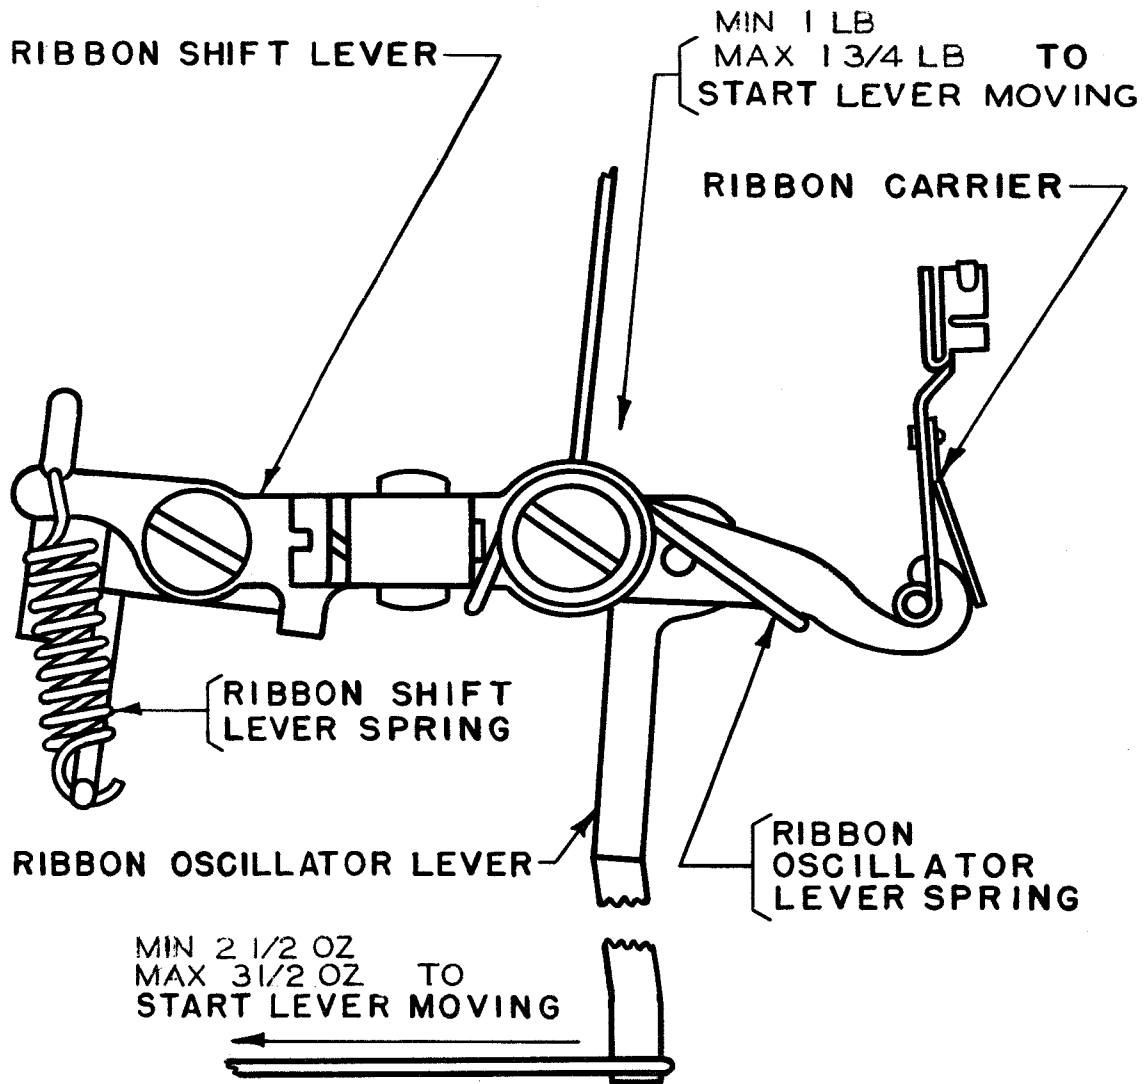

Figure 14
2.25 Ribbon-oscillator Lever should be free in its slot when its spring is unhooked. Gauge by feel. See Figure 14.
2.26 Ribbon-oscillator-lever Spring should have a tension of minimum 2-1/2 ounces, maximum 3-1/2 ounces, when the ribbon-shift-lever spring is removed. See Figure 14.
2.27 Ribbon-shift-lever Spring should have a tension of minimum 1 pound, maximum 1-3/4 pounds, when the ribbon-oscillator spring is unhooked from the lever. See Figure 14.